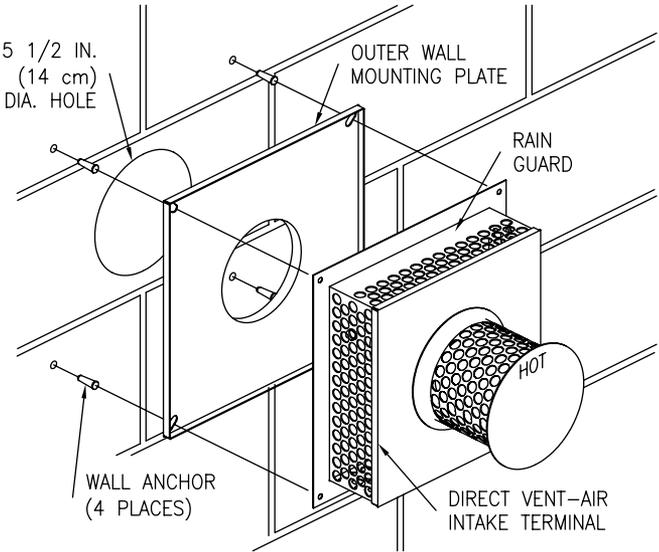

Figure 4
3. Cut a 5-1/2 inch (14 cm) diameter minimum clearance hole in the wall at the point where the vent-air intake tubes will pass through the outside wall and connect with the direct vent-air intake terminal (See Figure 4).
5. From outside the building, position the outer wall mount plate and direct vent-air intake terminal over the center of the opening. Mark the mounting screw hole locations. With a 3/16 inch (4.5 mm) diameter drill bit (not supplied), drill holes for the wall anchors (supplied). Install the wall anchors but **DO NOT** affix the outer wall mount plate and direct vent-air intake terminal to the wall at this time (See Figure 4). Note: Certain construction of walls may require the use of a different type of wall anchoring means than supplied. **DO NOT** modify the direct vent-air intake terminal or outer wall mount plate.